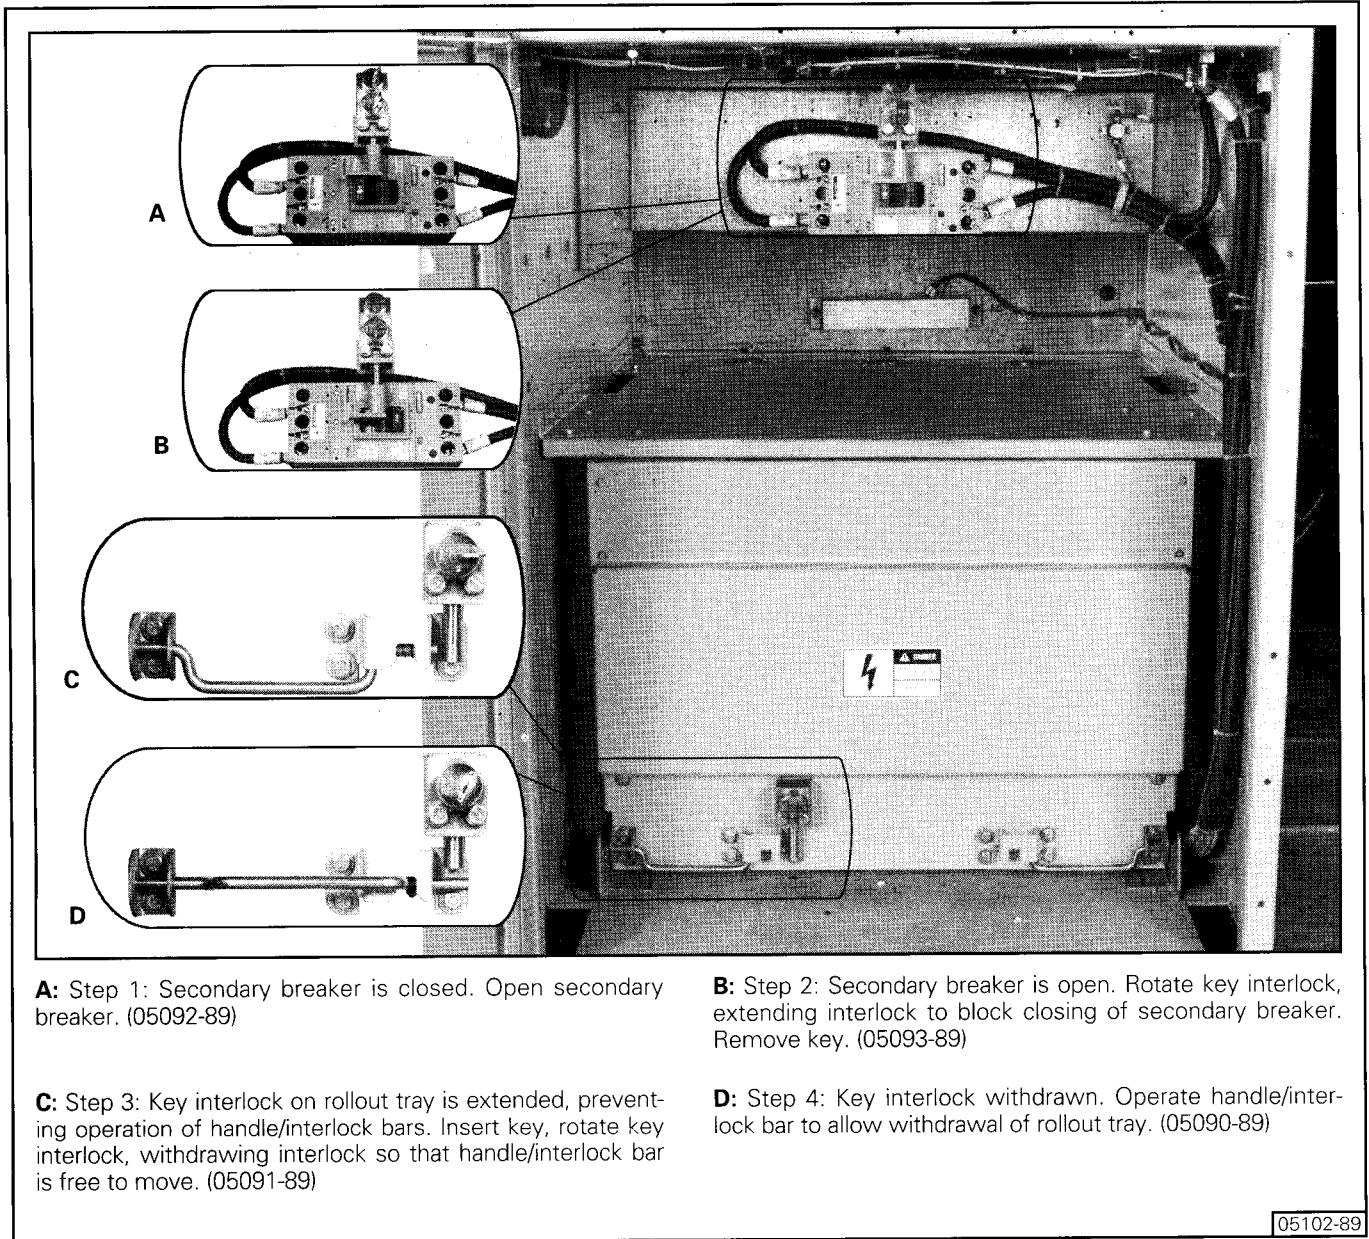

Figure 31. CPT Fuse Rollout Tray with Key Interlocking
- **To Disconnect CPT Rollout or CPT Fuses** (Refer to **Figure 31**) Withdrawal of a CPT rollout or a CPT fuse rollout is similar to withdrawal of a VT rollout, except that the secondary circuit breaker must be opened before the rollout tray can be withdrawn. If the secondary molded case circuit breaker is mounted directly on the rollout tray, the circuit breaker will be mechanically interlocked with one of the handle/interlock bars. If the circuit breaker is separately mounted, the circuit breaker will be key interlocked with the handle/interlock bar. Opening of the circuit breaker will allow operation of the key interlock, which will make the key available. This key should then be inserted in the key interlock on the rollout tray, to allow the tray to be withdrawn.